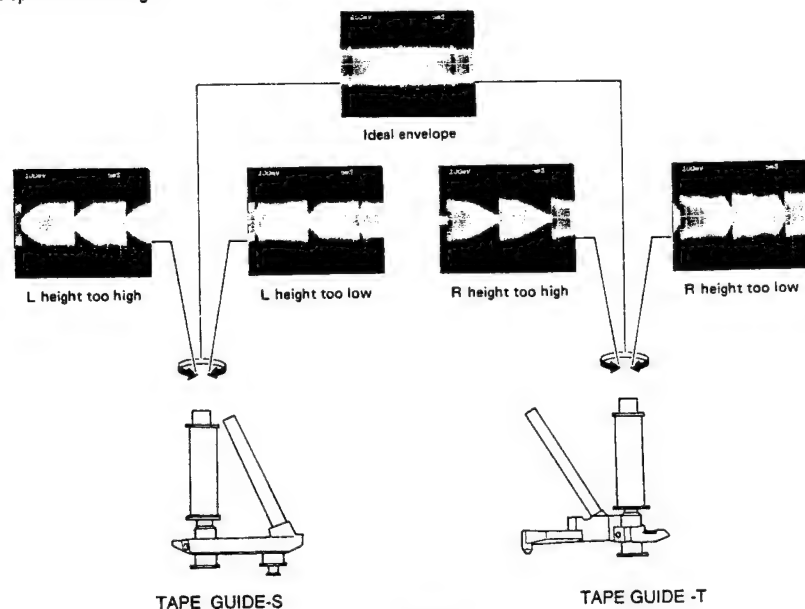

Fig.4-4
2. Connect an oscilloscope's CH-1 to P327 ④ pin (ENVE) and CH-2 to ③ pin (FF25) on the MAIN PCB for triggering.
- Turn the GUIDE ROLLER's head with a hexagonal screw driver to obtain a flat RF envelope, as the ideal envelope shown in Fig.4-4.